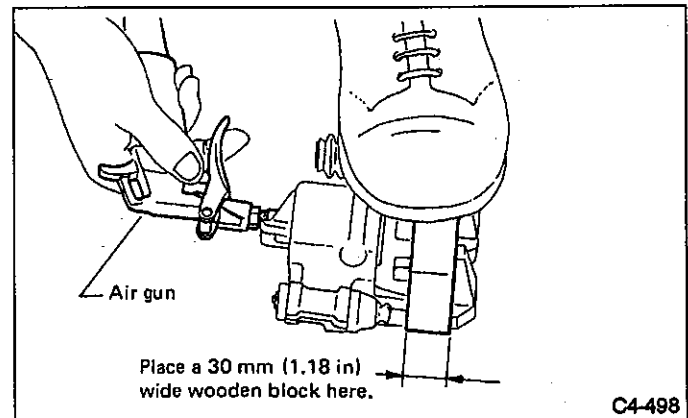

Fig. 95
- a. Place a wooden block as shown in Fig. 95 to prevent damage to piston.